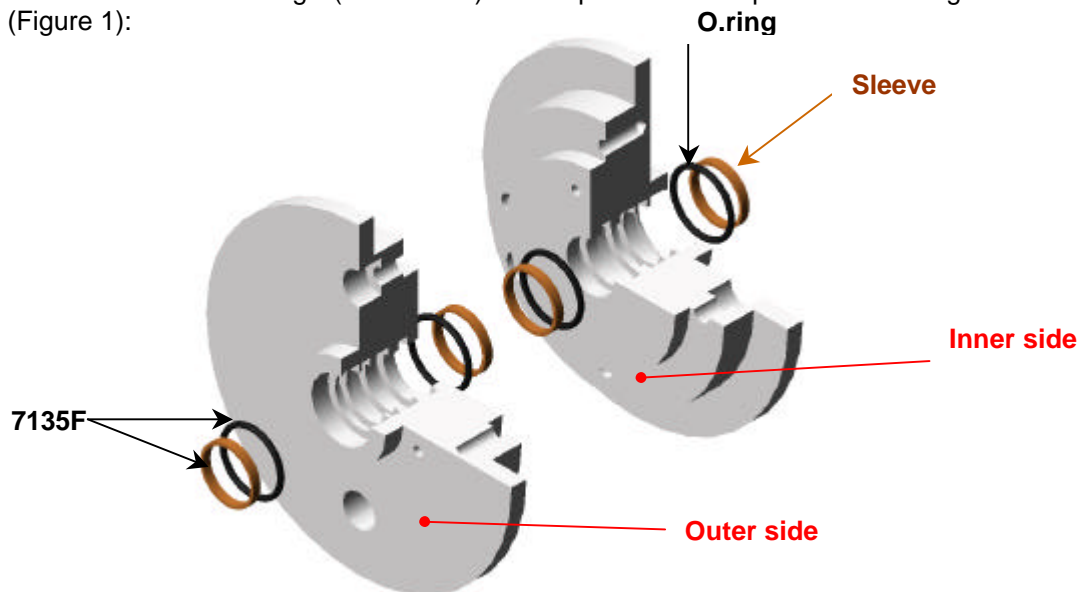

Figure 1
- Each of the 4 shaft rings (P/N 7135F) is composed of two parts: one O.ring and one sleeve (Figure 1):